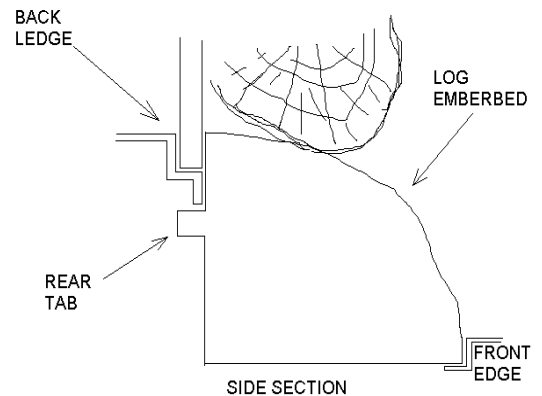

FIGURE 4
3. Pull front edge of plastic ember bed or plastic grate up and forward until rear tab releases from the ledge located at the bottom of the mirror. (FIGURE 4)
7. Replace the log by inserting the rear tab of the logset under the back ledge of the fireplace and push down on the front edge of the logset until it snaps into place. (FIGURE 4)
10. Replace the log by inserting the rear tab of the logset under the back ledge of the fireplace and push down on the front edge of the logset until it snaps into place. (FIGURE 4)